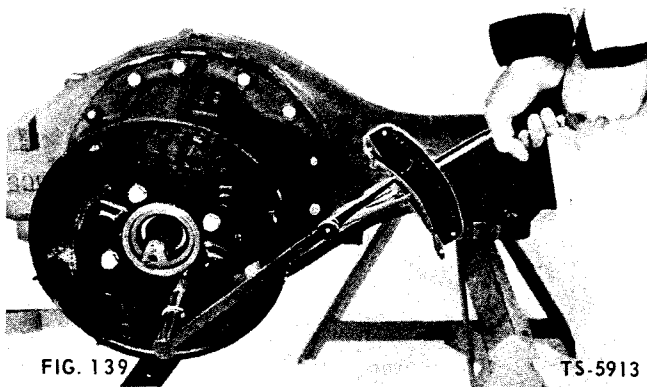

FIG. 139
3. On axles equipped with parking brakes, remove companion flange that was temporarily installed during differential reassembly. Position parking brake backing plate on pinion oil seal retainer of differential; secure with bolts and lockwashers (Fig. 139). Tighten to torque specifications.